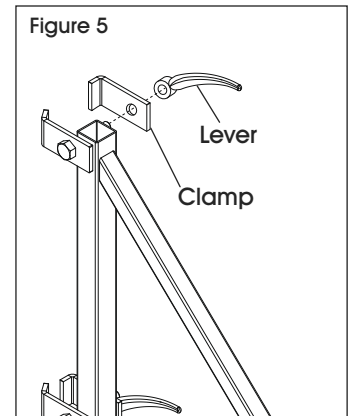

Figure 5
2. Insert clamp through each bolt on outrigger (C) and thread lever onto bolt. (See Figure 5)